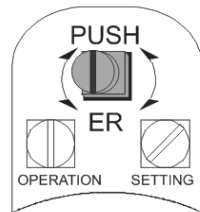
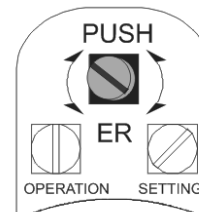

Figure 12.2-1
Figure 12.2-2
- Disengaged **PUSHER** shaft (Figure 12.2-2): With a suitable screwdriver press the **PUSHER** shaft 3 mm and turn it 45°, ensure that it does not return to its original height (Figure 12.2-1).
- Note: **PUSHER** shaft allow to engage/disengage the switching and signalling unit from Electric actuator gears. (Figure 12.2-1 and Figure 12.2-2).
- **ENGAGE PUSHER SHAFT:** Turn back PUSHER shaft. Check that goes back to its initial position (Figure 12.2-1). **This point is fundamental for the correct setting of the limit switches: Ensure that PUSHER shaft is correctly engaged.**
- **ENGAGE PUSHER SHAFT:** Turn back **PUSHER** shaft. Check that goes back to its initial position (Figure 12.2-1). **This point is fundamental for the correct setting of the limit switches: Ensure that PUSHER shaft is correctly engaged.**